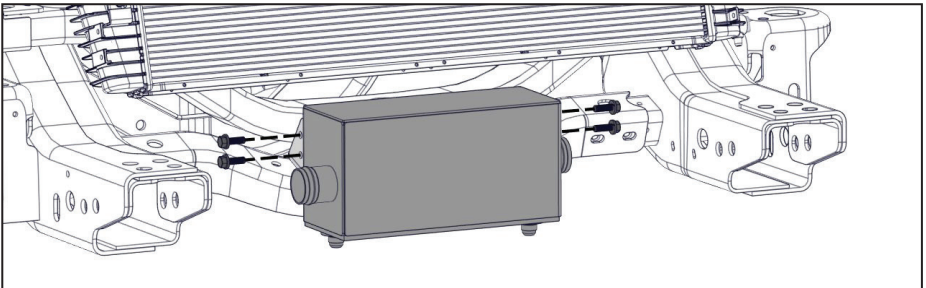

Figure 32 — Install cooler
- ☐ Mount the cooler to the cooler bracket (Figure 32).